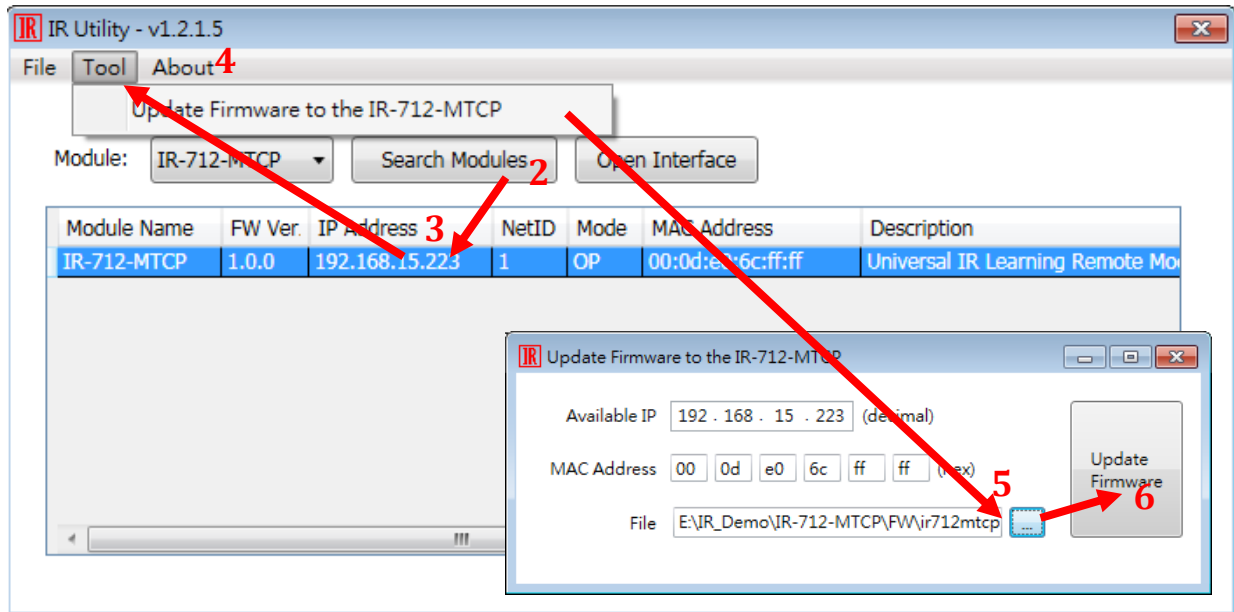
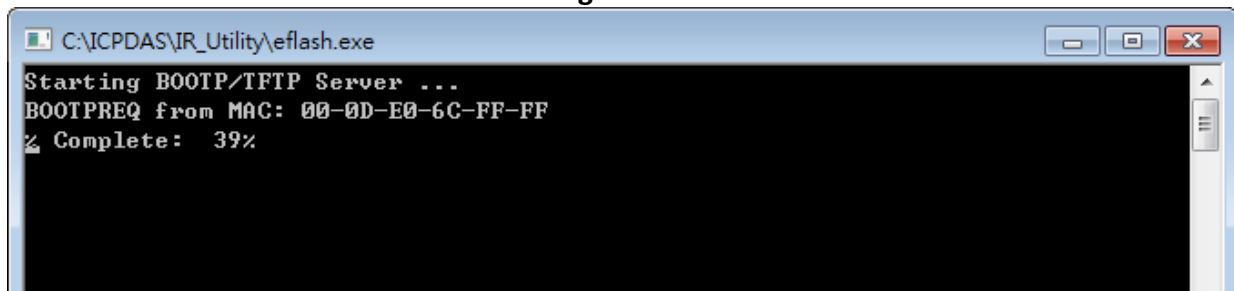

Figure A-2
Figure A-3
- (2) Click the “Search Modules” button to search the IR-712(P)-MTCP (Figure A-2) ◦
- (3) Mouse selects the searched module in the table.
- (4) Click [Tool]->[Update Firmware to the IR-712(P)-MTCP] to open the update dialog.
- (5) Select the firmware file (ir712mtcp_v###.dat).
- (6) Press the “Update Firmware” button.
- (7) A Console window appears to finish the update progress 100% (Figure A-3).
- (8) Push the DIP switch back to the “OP” position and power cycle the module.